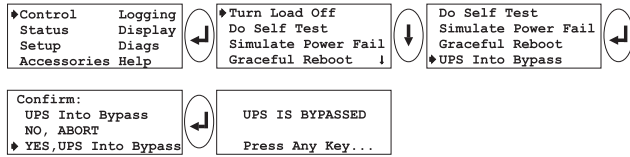

Fig 5-24 Initiate Bypass Mode
- ❑ 10. Place the Symmetra™ into Bypass mode by following the screen sequence in figure 5-24.